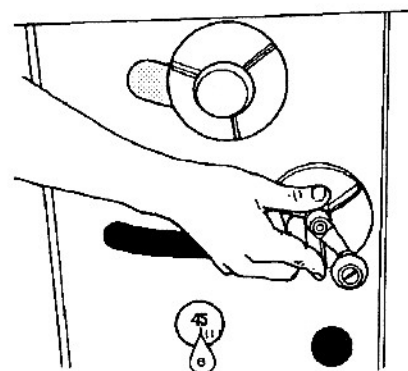
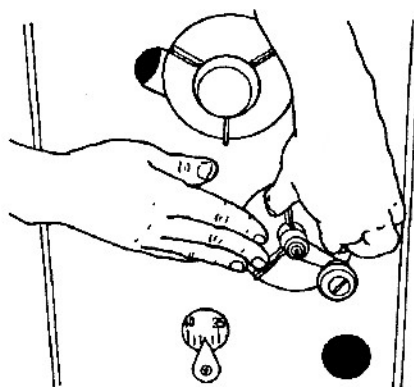

Fig. 29
Fig. 30
41. Loosen the blade bevel lock (40), as in Fig. 29, and move the blade to the 37° setting on the scale, as illustrated in Fig. 30. Tighten the blade bevel lock.